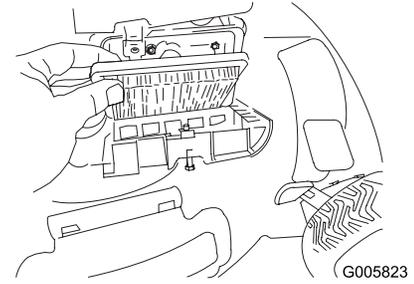

Figure 26
2. Replace the air filter (Figure 26).